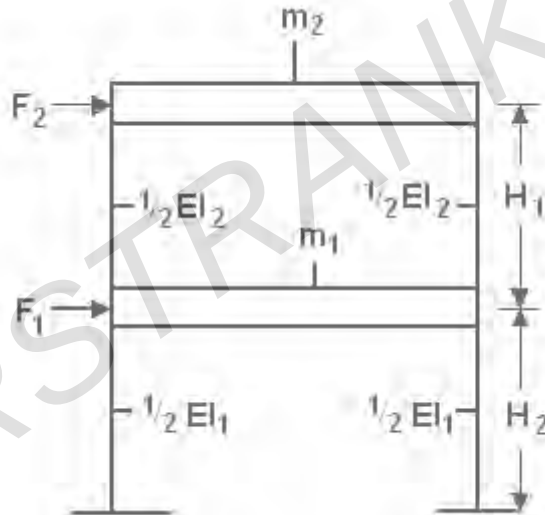

Figure 6
1. Figure below shows an equivalent model for a two storey building. The system consists of two rigid masses m_1 and m_2 supported on elastic columns. Columns as massless beams supported at both the ends. Elastic properties of the columns are as shown in the figure 6, Assume that the building only goes under horizontal motion. Let $m_1 = m_2 = m$, $H_1 = H_2 = H$, $I_1 = I_2 = I$.